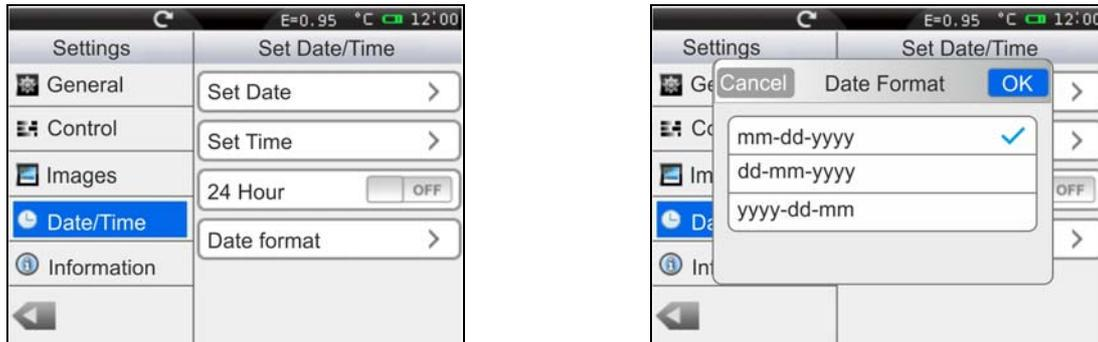

Fig. 19: “Date/Time” section, Setting menu
1. Touch the box “Date Format” and select the desired date format considering the options: **mm-dd-yyyy**, **dd-mm-yyyy** and **yyyy-dd-mm** (see Fig. 19).
3. Touch the box “24 Hours (ON) / 12 Hours (OFF)”, choosing the desired time format.